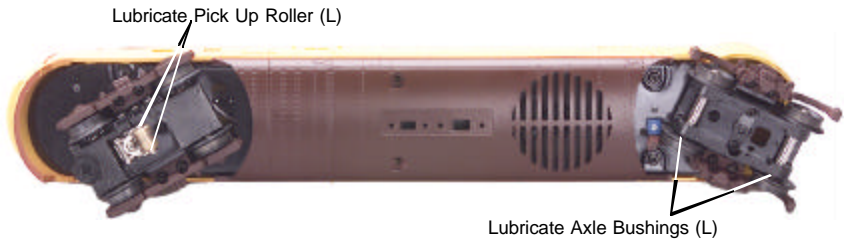
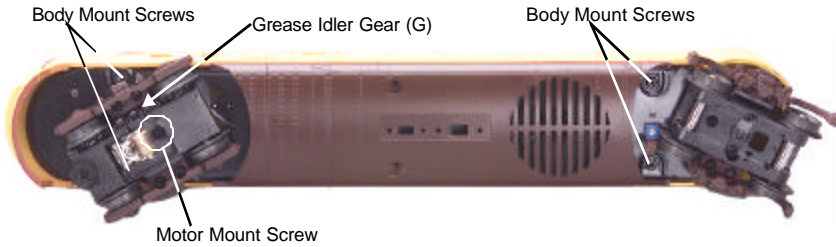

Figure 3. Lubrication Points on the Engine
Figure 4. Body Mount Screws and Greasing Points.
Although the engine was lubricated at the factory, it is important that you lubricate the chassis before operation. Lightly grease the outside idler and drive gears (marked “G” in Fig. 4 on page 9) to prevent them from squeaking. Use light household oil and follow the lubrication points marked “L” in Fig. 3 on page 8. Do not over-oil. Use only a drop or two on each pivot point.
You should regularly lubricate all outside idler gears and pickup rollers to prevent them from squeaking. Use light household oil and follow the lubrication points marked “L” in Fig. 3. Do not over oil. Use only a drop or two on each pivot point.
1. Remove the Phillips screws from the chassis, as seen in Figure 4, then lift the body away from the chassis.
2. Remove the truck blocks from the chassis by unscrewing the black Phillips motor mount screw on the bottom of each truck block, as shown in Figure 4.
It is also a good idea to lubricate the outside truck block idler and drive gears with grease occasionally. Add grease to the points marked with "G" in Figure 4.